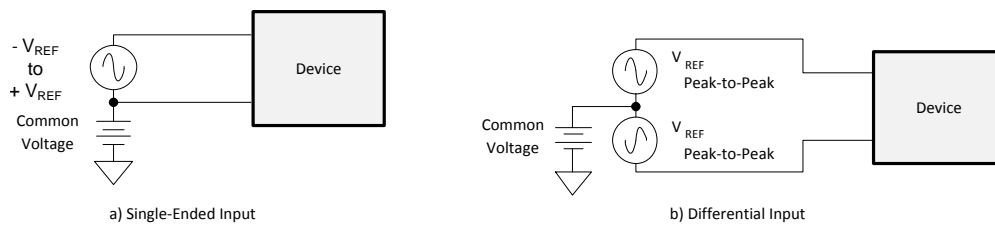
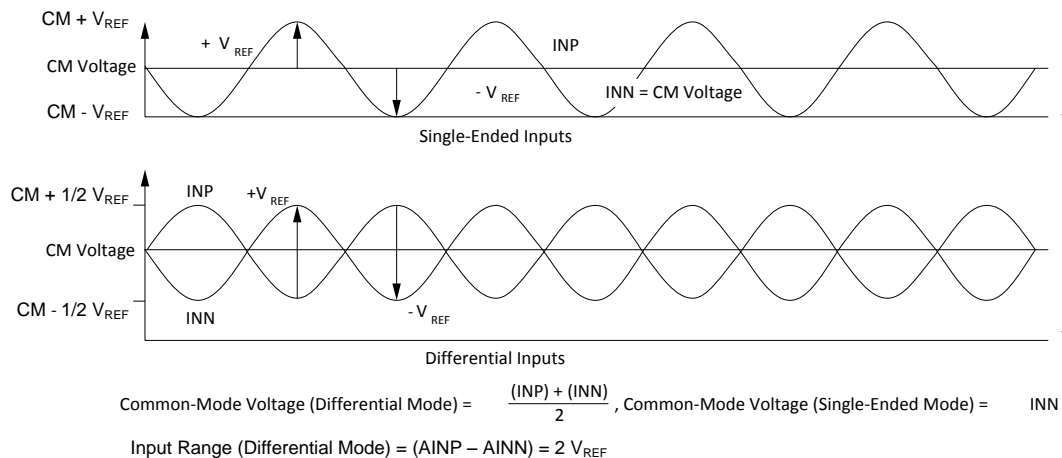

Figure 49. Methods of Driving the ADS1298: Single-Ended or Differential
Figure 50. Using the ADS1298 in the Single-Ended and Differential Input Modes
The analog input to the ADS129x is fully differential. Assuming $PGA = 1$, the differential input ($INP - INN$) can span between $-V_{REF}$ to $+V_{REF}$. Note that the absolute range for INP and INN must be between $AVSS - 0.3V$ and $AVDD + 0.3V$. Refer to Table 13 for an explanation of the correlation between the analog input and the digital codes. There are two general methods of driving the analog input of the ADS129x: single-ended or differential, as shown in Figure 49 and Figure 50. Note that INP and INN are $180^\circ C$ out-of-phase in the differential input method. When the input is single-ended, the INN input is held at the common-mode voltage (CM), preferably at mid-supply. The INP input swings around the same common-mode voltage and the peak-to-peak amplitude swings from $CM - V_{REF}$ to $CM + V_{REF}$. When the input is differential, the common-mode is given by $(INP + INN)/2$. Both the INP and INN inputs swing from $CM + 1/2V_{REF}$ to $CM - 1/2V_{REF}$. For optimal performance, it is recommended that the ADS129x devices be used in a differential configuration.